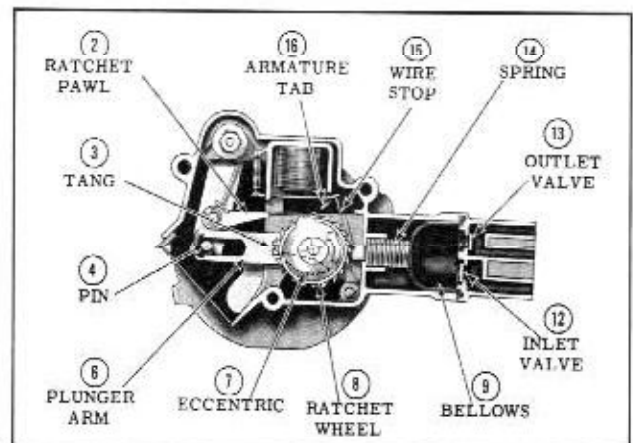

Fig. 13-114 Washer Operation
When the washer button on the instrument panel is depressed, the relay coil (11) is energized, which in turn raises the relay armature and ratchet pawl. The relay armature is held in the raised position by the wire stop (15). (Fig. 13-114)